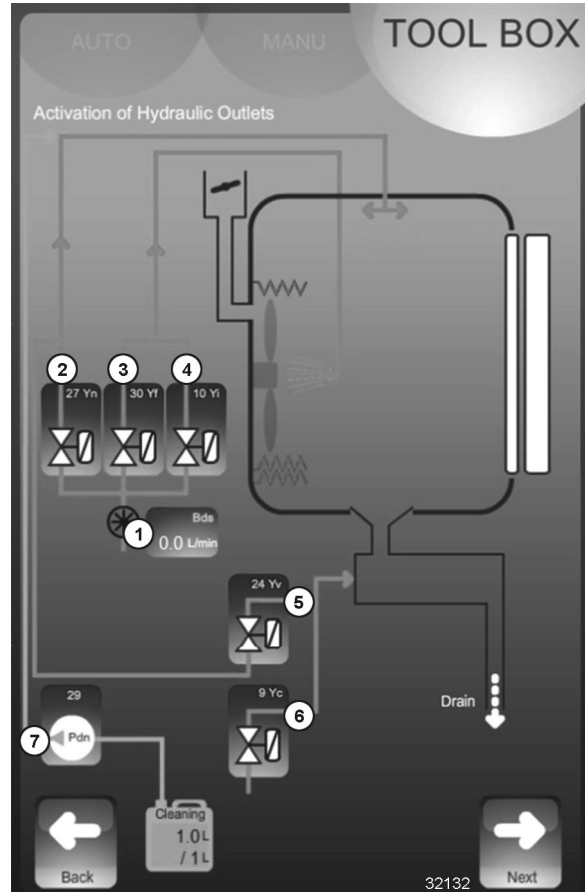

Fig. 111
- The **Activation Hydraulic Outlets** screen (Fig. 111) provides the following indications / controls:
- BDS** (1, Fig. 111) - Flow meter (monitored by output control assembly input BDS).
- Yn** (2, Fig. 111) - Cleaning valve (controlled by output control assembly relay board output 27).
- Yf** (3, Fig. 111) - Cooling valve (controlled by output control assembly relay board output 30).
- Yi** (4, Fig. 111) - Injection valve (controlled by output control assembly relay board output 10).
- Yv** (5, Fig. 111) - Detergent valve (controlled by output control assembly relay board output 24).
- Yc** (6, Fig. 111) - Condensate cooling valve (controlled by output control assembly relay board output 9).
- Pdn** (7, Fig. 111) - Detergent pump (controlled by output control assembly relay board output 29).